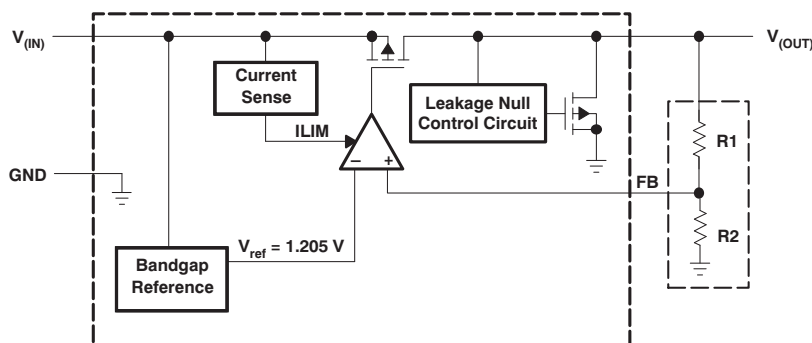

Figure 10. Functional Block Diagram—Adjustable Version
(1) Minimum $V_{IN} = V_{OUT} + V_{DO}$ or the value shown for *Input voltage* in this table, whichever is greater.
(2) See Figure 10. The TPS715 family employs a leakage null control circuit. This circuit is active only if output current is less than pass FET leakage current. The circuit is typically active when output load is less than $5\text{ }\mu\text{A}$, V_{IN} is greater than 18 V , and die temperature is greater than 100°C .